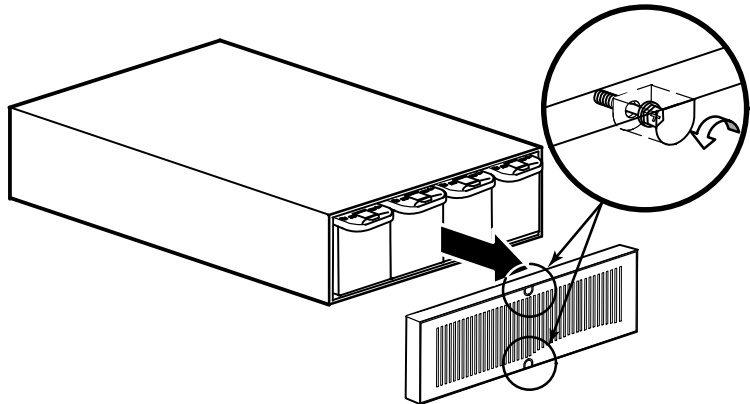

Figure 41. Removing the EBM Front Cover
3. Remove the EBM front cover (see Figure 41).